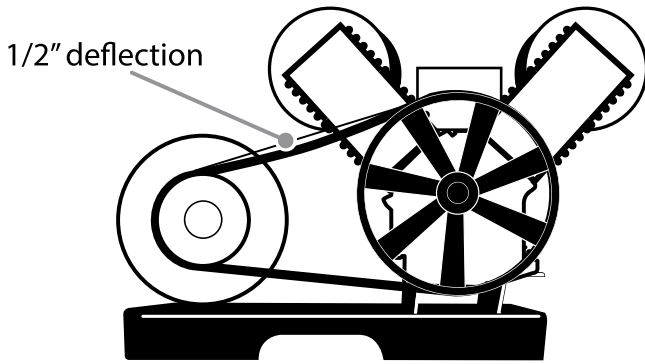

Figure 3: Proper belt tension
6. Install belts. There should be 1/2" slack for proper belt tension. See figure 3.
2. Check for proper belt tension. There should be 1/2 inch slack. Refer to figure 3, pg. 4.
- Proper belt tension is determined by pressing on belt midway between motor pulley and flywheel. There should be approximately 1/2 inch of deflection. Refer to figure 3, pg. 4.